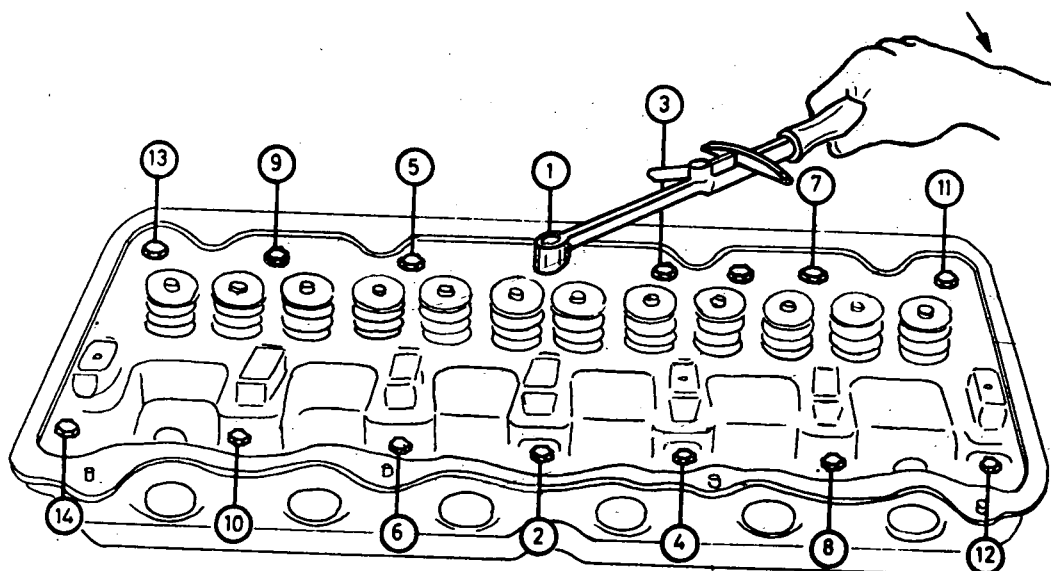

Fig. 1
- c) Tighten, alternately and progressively, the cylinder head bolts, from the centre to the ends, paying attention to the specifications (fig. 1).